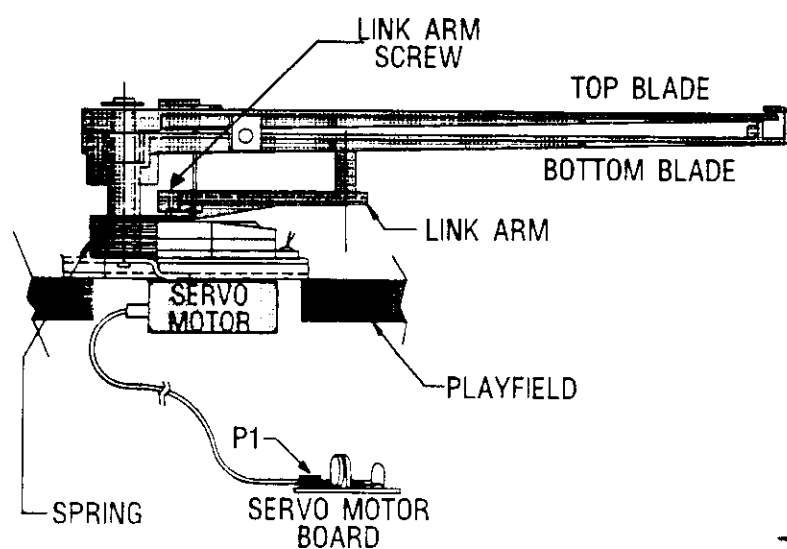

Figure 3
(See Figure 3)
- C. REMOVE LINK ARM, MANUALLY FOLD BLINDERS IN (CLOSED). RE-ATTACH THE LINK ARM TO SERVO MOTOR AND BLINDERS. SECURE SCREW. (See Figure 3)